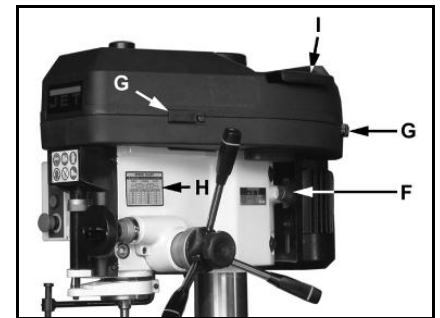

Fig 8
Release two latches (G, Fig 8) and pull the pulley guard (I) open.